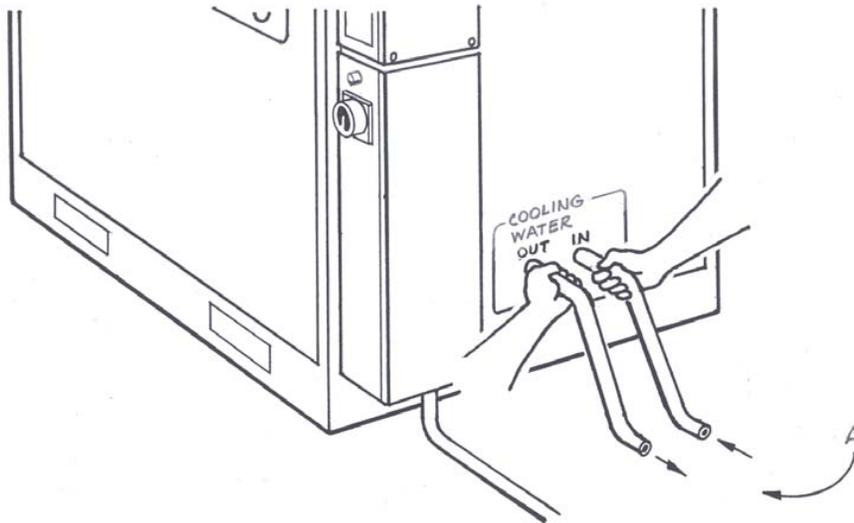

Figure 3-27: Cooling water flow direction check
7. Check the direction of the cooling water's flow. The drain line (OUT) should be warmer than the supply line (IN). (See Figure 3-27.) If not, turn off the unit and connect the supply and drain lines to the proper ports.